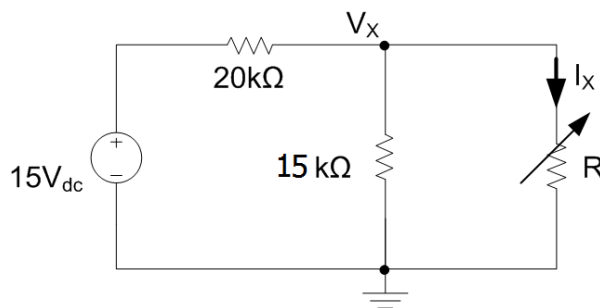

Figure 4-1: Variable resistor circuit
- Copy Figure 4-1 into your lab book. Use the measured values of the resistors in your lab kit and apply circuit analysis symbolically to Figure 4-1 to find a formula for the node-voltage, V_x , the current, I_x , and the power absorbed by resistor R as a function of R .
- Use NI Multisim to check your work by building the circuit in Figure 4-1 with $R = 10\text{k}\Omega$ and use the multimeter to measure V_x , I_x , and P_x . View the following video to learn how to use the wattmeter in NI Multisim to measure power: <http://goo.gl/qupJK>. Now use the wattmeter to measure the power delivered to R . Submit the results of the NI Multisim simulation with the values shown on the printout. Create a table to compare the calculated and simulated results.
- Create a spreadsheet with headings: R, V_x , I_x , and P. Then make rows under R from 100 to 100 k Ω in steps of 1, 2, 4, and 7 (i.e. 100, 200, 400, 700, 1000, 2000, 4000, ...). Put the formulas you derived for Figure 4-1 in the spreadsheet and calculate V_x , I_x , and P for all of the resistor values. These are the predicted values for the measurements you will make during lab. Submit the spreadsheet as part of your pre-lab submission.
2.1 **Variable Resistor Circuit.** Build the circuit of Figure 4-1, with R being a resistance substitution box. Set-up two DMMs: one to measure the voltage across the resistor and the other one to measure the current through the resistor. Before you take a lot of data, check your set-up by measuring the values for R = 10K Ω . Compare this measurement to your pre-lab values.
- Circuit of Figure 4-1 with components and test points properly labeled